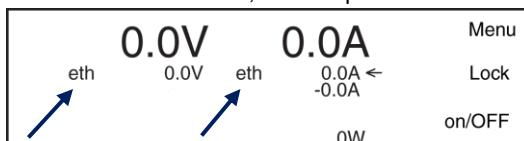

Figure 7.21: The programming source appears before the settings. In this example both CV and CC settings are controlled via Ethernet.
- The second line shows the settings of the controls for the voltage and current. If the unit is in local operation, the text 'front' is indicated before the settings values. If the unit is set to remote programming, for example Ethernet programming, the text 'eth' is indicated. See fig. Figure 7.17 to Figure 7.21.
- Before the set values, the selected source is shown, see Figure 7.21. For example 'eth', 'web', 'seq', 'slot1' etc.